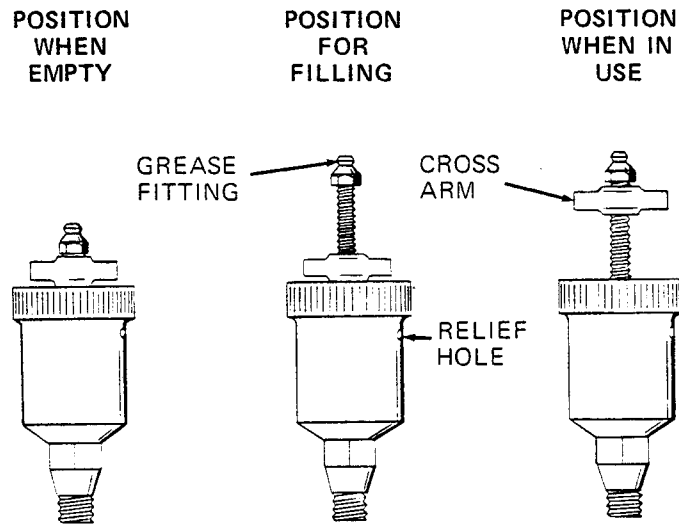

Figure 3. Automatic Lubricating Grease Cup
Before removing the seal assembly, turn the cross arm on the seal grease cup (10) clockwise until it rests against the cover (see figure 3). This will prevent the grease in the cup from escaping after the seal is removed.
Before starting the pump, fill the grease cup through the grease fitting with a good grade of No. 2 pressure gun grease until grease escapes from the relief hole. Turn the grease cup arm counterclockwise until it is at the top of the stem; this will release the spring to apply grease to the seal (see figure 3).